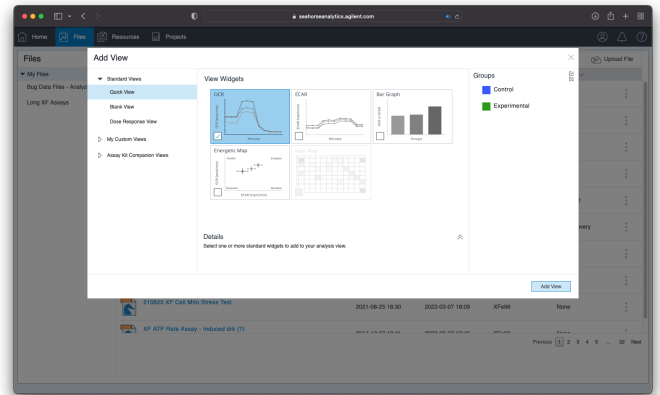

Figure 12. The Add View window.
- If this is the first time you have analyzed the data file, you will see the **Add View** dialog. The Add View window allows users to select widgets for creating an analysis workspace. Create an analysis view for this file by selecting at least one widget (Figure 12).